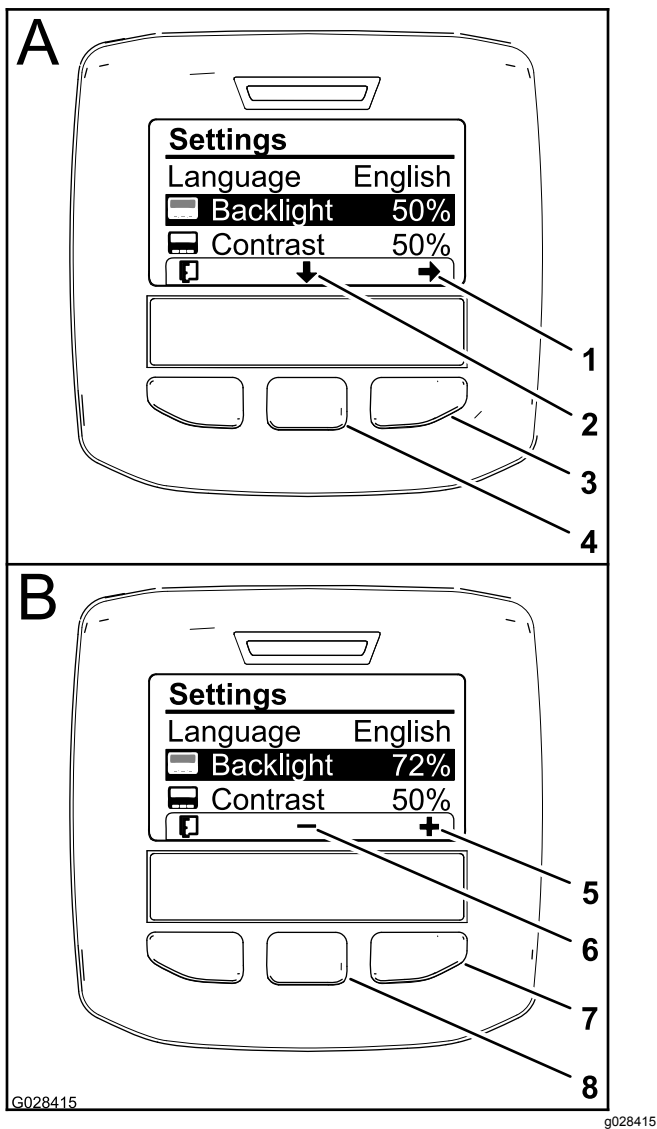

Figure 64
2. To adjust the backlight level of the display, press the center selection button (the button below the down arrow icon in the display) to move the selected option down to the Backlight setting (Figure 64).
3. Press the right selection button to display the value adjustment context (Figure 64).
4. Use the center selection button and right selection button to change the brightness level of the display (Figure 64).
selection, exit the Backlight menu, and return to the Settings menu (Figure 64).
6. To adjust the contrast level of the display, press the center selection button (the button below the down arrow icon in the display) to move the selected option down to the Contrast setting (Figure 64).
7. Press the right selection button to display the value adjustment context (Figure 64).
8. Press the left selection button (the button below the list icon in the display) to save your selection, exit the Contrast menu, and return to the Settings menu (Figure 64).
9. Press the left selection button to exit the Settings menu and return to the Main Menu (Figure 62 and Figure 64).
10. Press the left selection button to return to the Home screen (Figure 64).